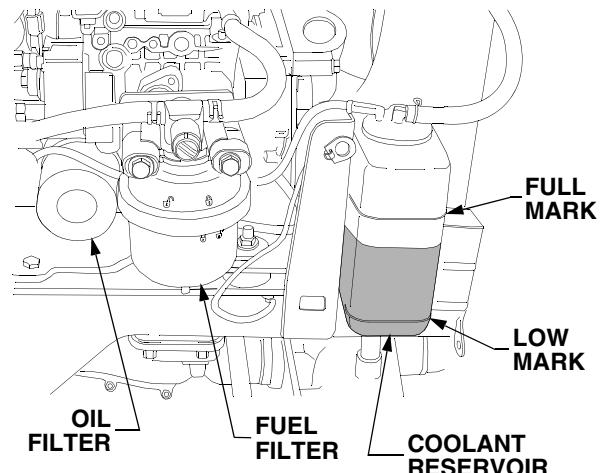

Figure 53
- Remove the filter by turning it counter-clockwise using an automotive type filter wrench to loosen. See Figure 53.
- Raise the tractor hood and check the coolant level in the overflow reservoir on the *right* side of the engine. Refer to Figure 53.